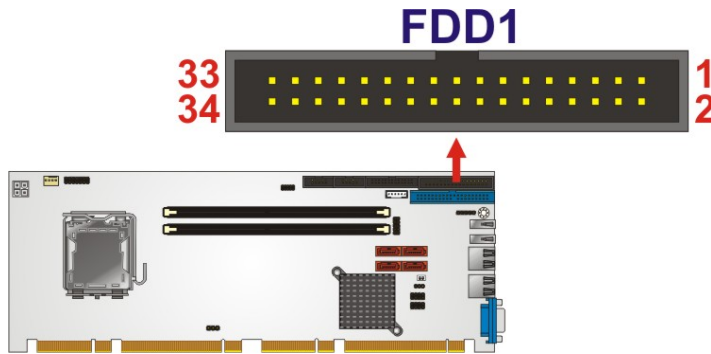

Figure 3-7: Floppy Drive Connector Location
- CN Location:** See **Figure 3-7**